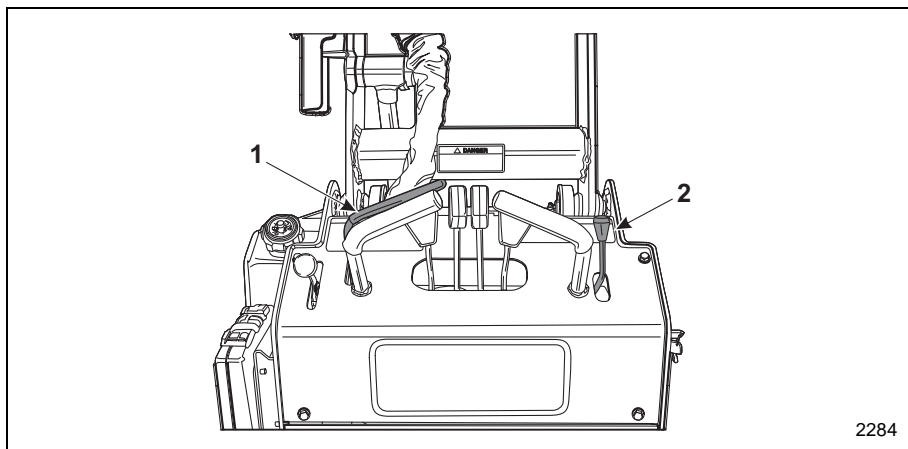

Figure 3-38 Auxiliary Attachment Controls
2. Move the HI/LOW selector lever (Item 2, Figure 3-38) to either the high speed or low speed setting depending on the attachment to be used. This setting will control both the functional speed of the attachment as well as machine travel speed.
3. With your left hand, squeeze the AUXILIARY/OPERATOR PRESENCE control lever (Item 1, Figure 3-38) towards the hand grip to activate the FORWARD motion of the attachment.